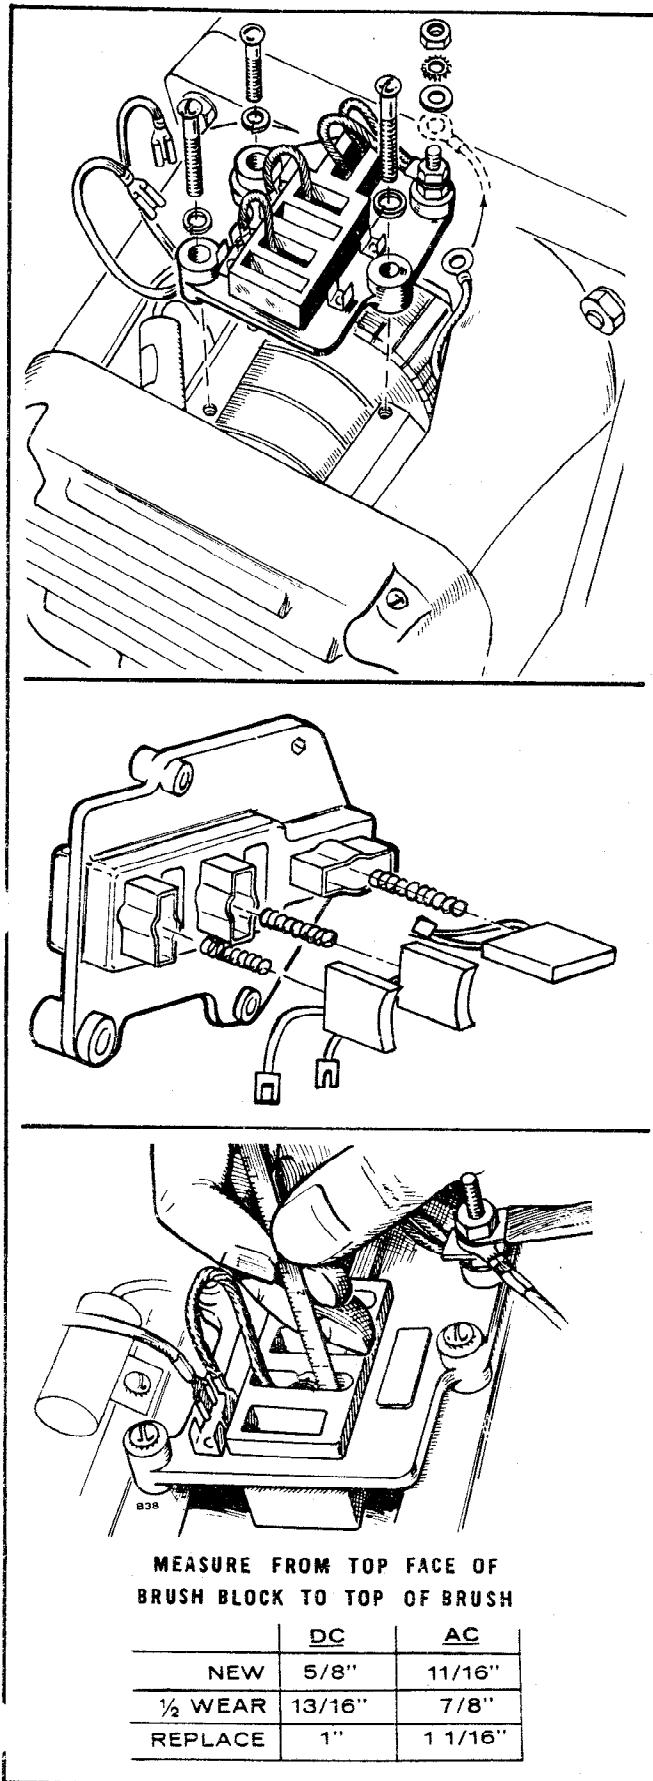

FIGURE 21. GENERATOR BRUSHES (BEGIN SPEC R)
**Brush Replacement (Begin Spec R):** Install new brushes when the old ones are worn to the dimensions shown in Figure 21. Remove the end bell band to expose the brush holders. Remove the three screws holding each brush holder in place. Remove the old brushes and clean the holders so the new brushes can move easily in their holders. Install the new brushes in the same manner as the old ones. Always use the correct brush as listed in the *Parts Catalog* section. Never substitute a brush which may appear to be the same, for it may have different characteristics. New brushes are shaped to fit and seldom need sanding to seat properly. If some brush sparking occurs after replacing brushes, run the set under a light load until the brushes wear to a good seat.